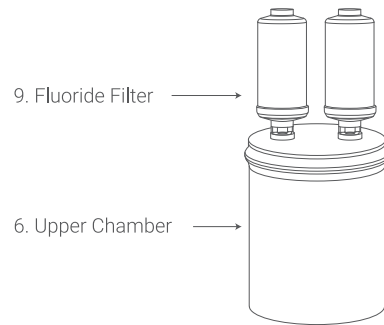

Figure 6
Place the Upper Chamber (6) upside down, and screw each Fluoride Filter (9) with the "IN" indicator to the threaded rod of the corresponding Carbon Filter (5). Flip the Upper Chamber over for installation. (Figure 6)